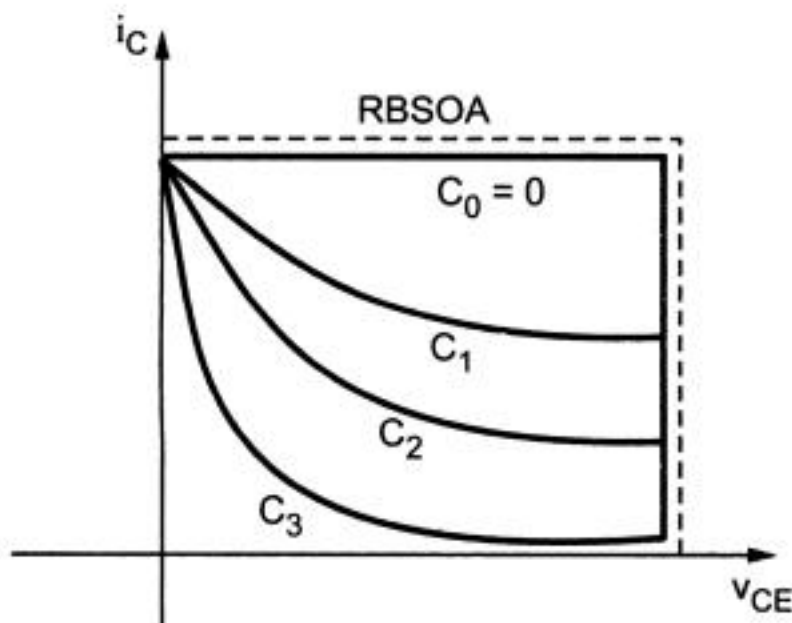

Fig. 1.4.14 Switching trajectory for various values of C
- Fig. 1.4.14 shows the switching trajectory of IGBT for various values of C.